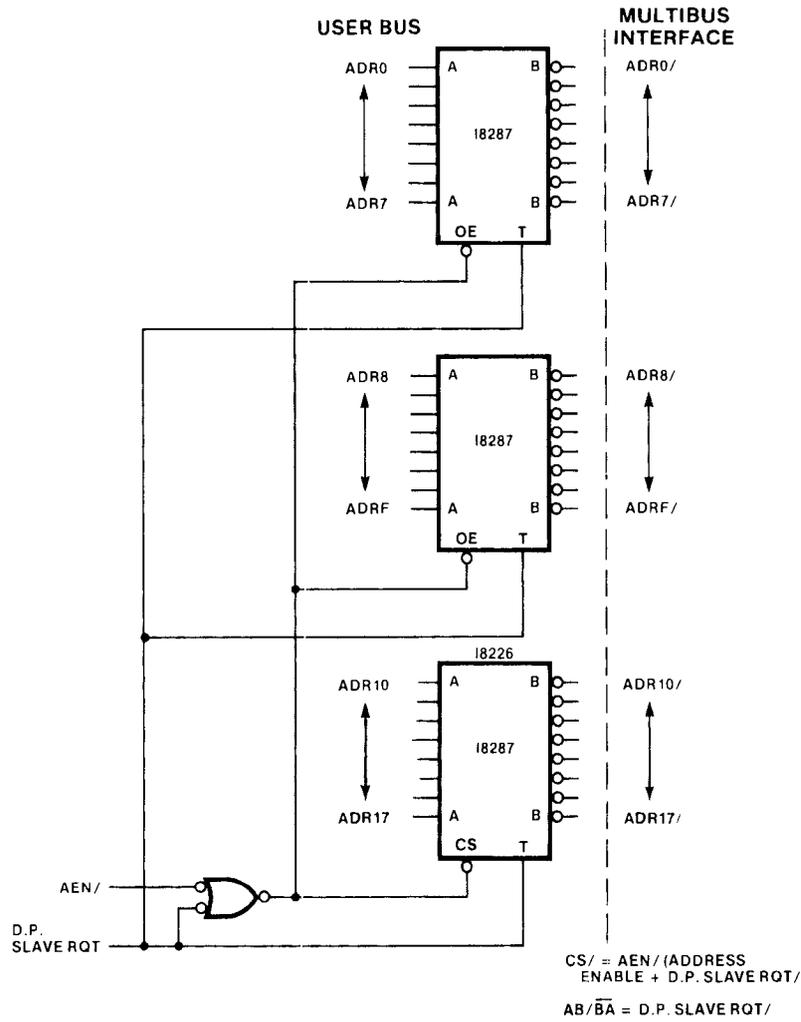

Figure 5-9. 24 Bit Bidirectional Address Bus Drivers
**5.1.2.2 Bi-Directional Drivers.** For masters which drive and receive the address lines, bidirectional drivers are used. The example given in Figure 5-9 is part of a dual port memory. The buffers are enabled and drive the bus if the master has control of the bus (AEN/ active). The buffers are enabled and receiving if the MULTIBUS interface has addressed the dual port memory and the dual port controller has enabled the dual port slave RQT/ signal. The AEN/ and dual port slave RQT/ are mutually exclusive signals.